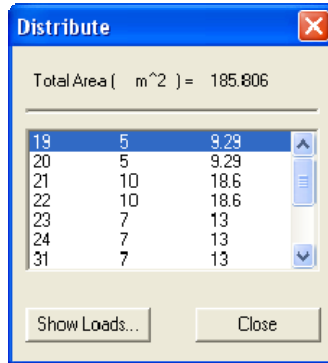

Figure 7-4 Distribute dialog box
- From the Edit menu, choose Distribute. The dialog box of Figure 7-4 appears.